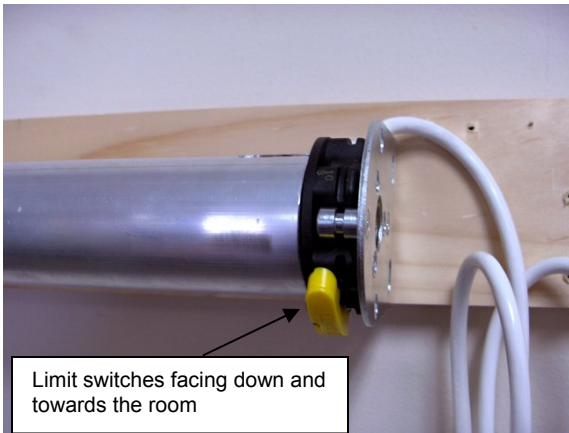

Figure 19 Motor in Bracket
- Allow the idler to spring back so that the star head on the motor engages the pins on the motor bracket. See Figure 19.